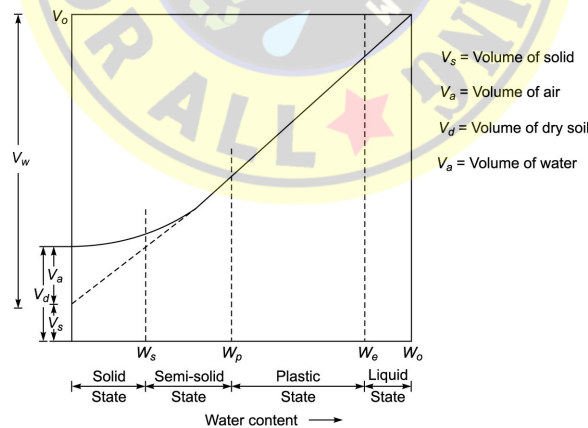

Fig. 12.4 Transition stages of cohesive soil
- * Curve showing transition stages from the liquid to solid state is as shown in Fig. 12.4.